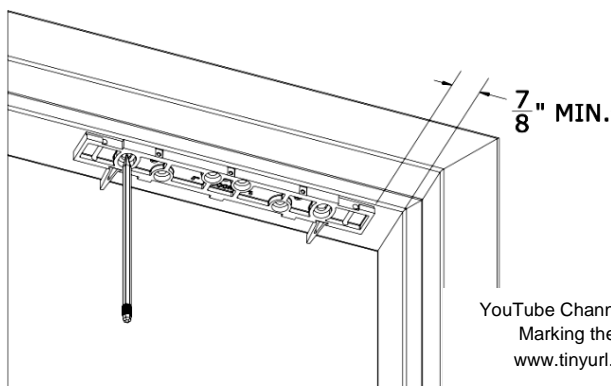

Figure 10. Marking the Frame
- d. MARK the frame through the two (2) oblong bracket mounting holes (see Figure 10, "Marking the Frame").